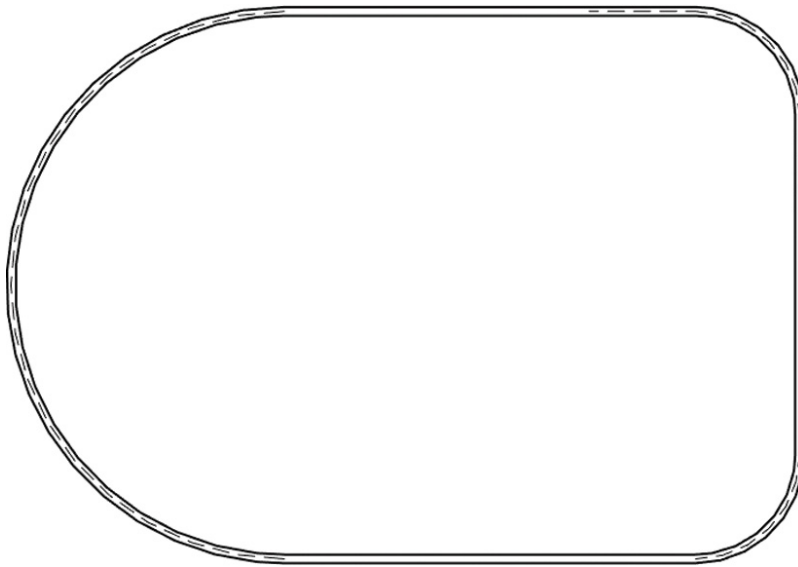

FIGURE 2.7 Results of the Tangent-Fillet Walls exercise
9. Click the left end of the wall segment at the bottom of the layout, and then click the left end of the wall segment at the top to complete the tangent arc wall. Your results should look like the plan shown in Figure 2.7.